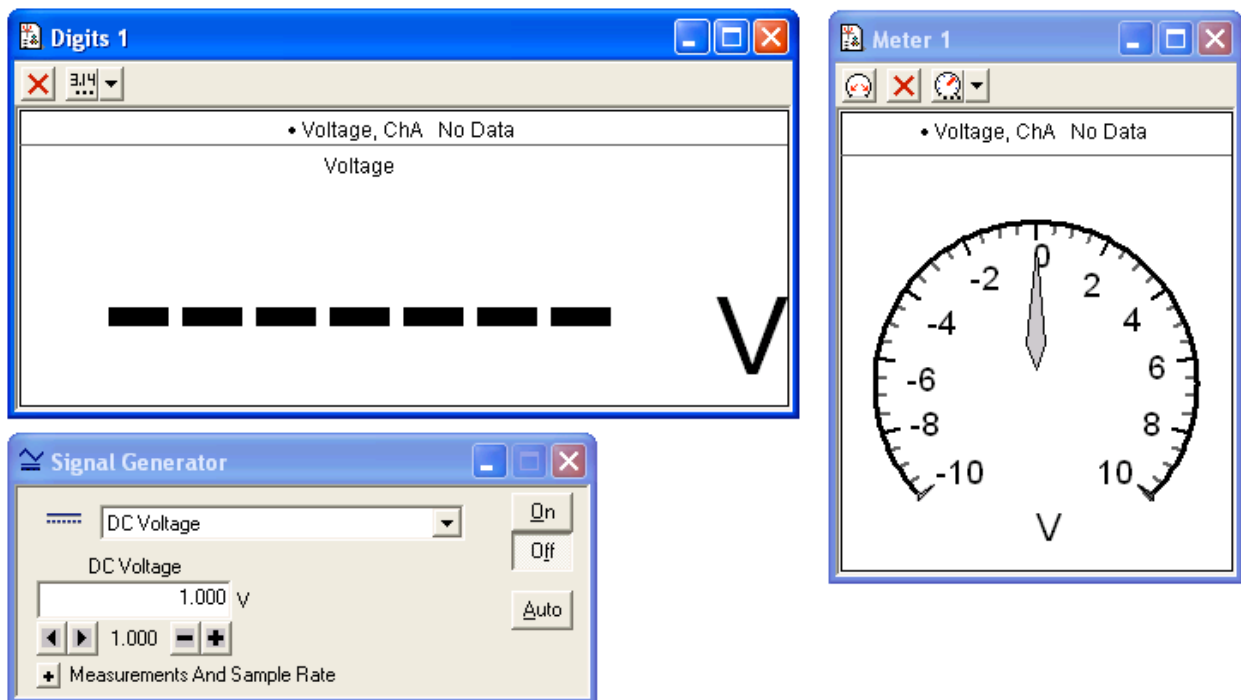

Figure 2 Start-up screen
- 1) When the computer boots up, go to the course website and follow the directions to open the Data Studio file associated with this lab. This should start the Data Studio program and a screen with windows similar to Figure 2 should appear. The windows show both a digital and analog voltmeter, both measuring the voltage from the voltage probe.